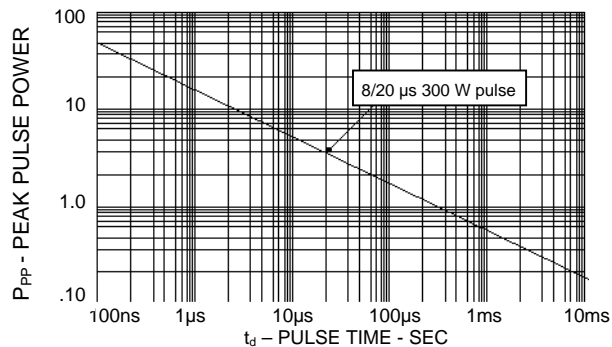

FIGURE 1
- SL03 thru SL24 have a Peak Pulse Power: 300 Watts (8/20 µsec, Figure 1)